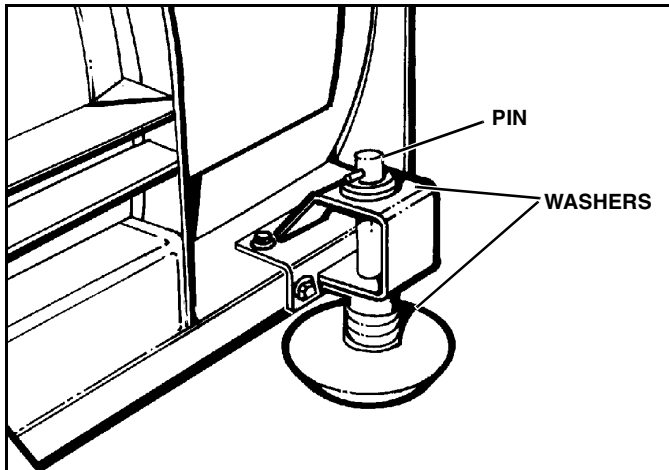

Figure 3-1
5. Adjust shoe assemblies by removing shoe mounting lynch pin and adding or subtracting washers on the top or bottom of the shoe mounting bracket. (See Figure 3-1)